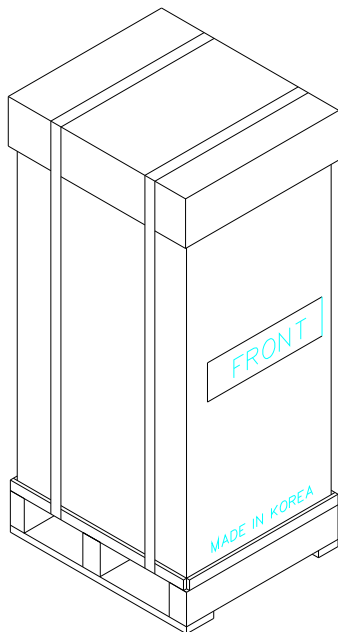

Fig.1
- Cut the straps that are fastened around the box with a knife. (refer to Fig.1)